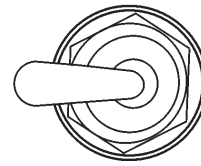

Figure 21. Pumping Control Switch (Remote)
2. On the control box, place the pumping control switch in the REMOTE ON position (Figure 21)